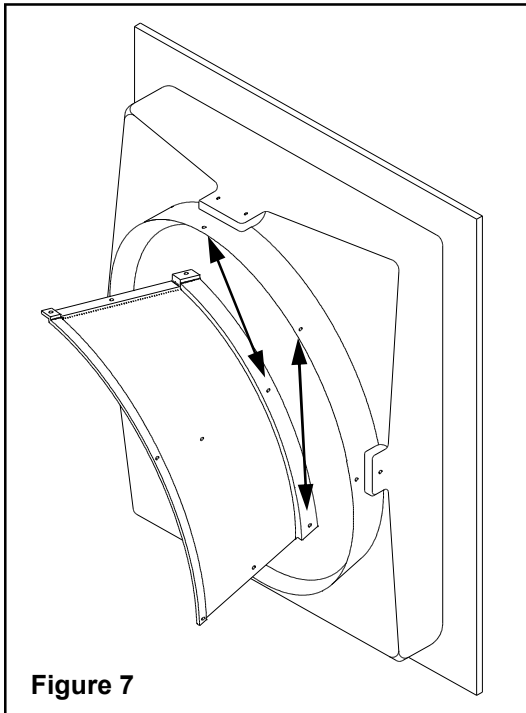

Figure 7
The four cone quarters are tapered at the inlet end so they will fit snugly over the fan housing. Place one cone quarter centered at the top of the fan to line up with the pre-drilled holes. Fasten the cone quarter to the fan housing with two (2) 1/4" x 1" truss head Phillips screws, pushing the screws from inside the fan, through the fan housing and through the cone quarter. Do this through the pre-drilled holes at the 12:00 position and the 1:30 position in the fan housing, and through the two (2) pre-drilled holes in the cone. See Figure 7. Then, secure the